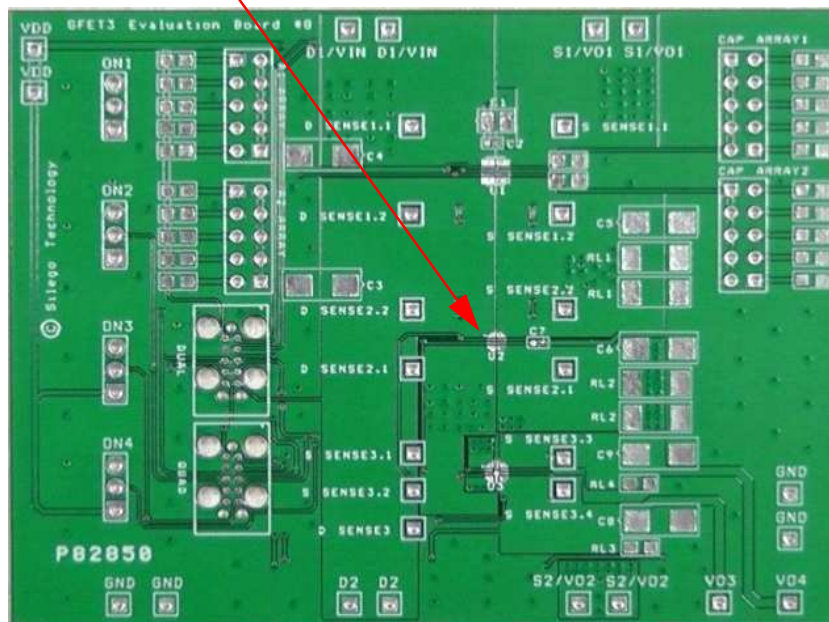

Figure 1. SLG59M1641V Evaluation Board
1. Since the VIN[1,2] and VOUT[1,2] pins dissipate most of the heat generated during high-load current operation, it is highly recommended to make power traces as short, direct, and wide as possible. A good practice is to make power traces with an absolute minimum widths of 15 mils (0.381 mm) per Ampere. A representative layout, shown in Figure 1, illustrates proper techniques for heat to transfer as efficiently as possible out of the device;
A GreenFET Evaluation Board for SLG59M1641V is designed according to the statements above and is illustrated on Figure 1. Please note that evaluation board has D\_Sense and S\_Sense pads. They cannot carry high currents and dedicated only for RDSON evaluation.